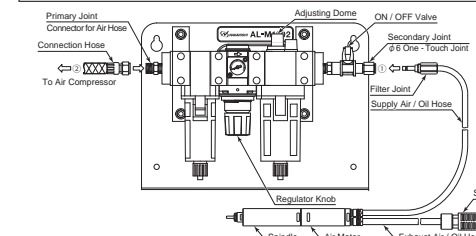

Fig. 6 Connection of Air Line Kit "AL - M1202 (Sold Separately)"
- Connect the Filter Joint of the supply air / oil hose to the Secondary Joint (φ 6 One - Touch Joint) of the Air Line Kit (Fig. 6 ①).
- Connect the Connection Hose (Air Line Kit's Standard Accessories) to the Primary Joint of the Air Line Kit and Compressor (Fig. 6 ②).